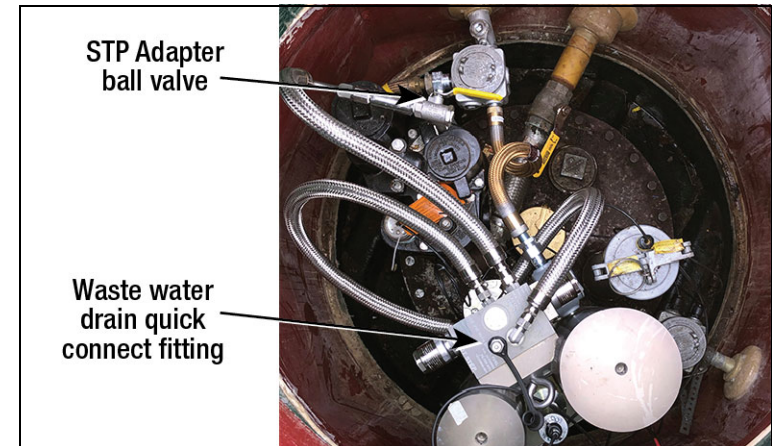

Figure 1.
1. Close STP Adapter ball valve to isolate the FC unit from the pump (see Figure 1).